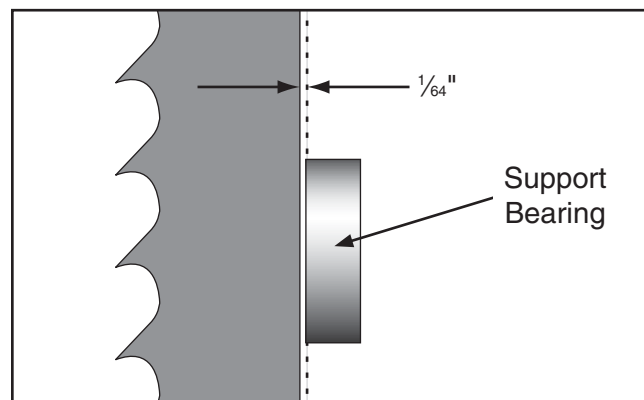

Figure 36. Support bearing properly positioned behind the blade.
- Position the support bearing so that it is $\frac{1}{64}$ " (approximately the thickness of four pieces of paper) behind the blade, as illustrated in **Figure 36**.